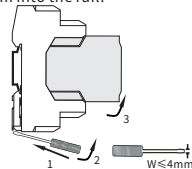

figure 2 Disassembly
Procedure of disassembly SPD are shown in the figure 2.
2. Push the screwdriver downwards as shown in figure 2 and then rise up the bottom of SPD' s metal buckle.